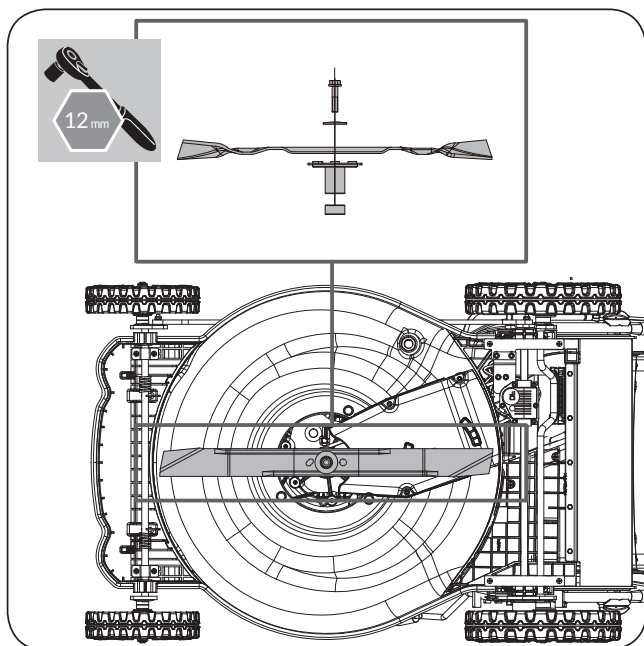

Figure 28
4. Remove the blade, saving all mounting hardware. Examine the blade support and blade bolt to see if there is damage. Examine the motor shaft to make sure that it is not bent. (See **Figure 28**)